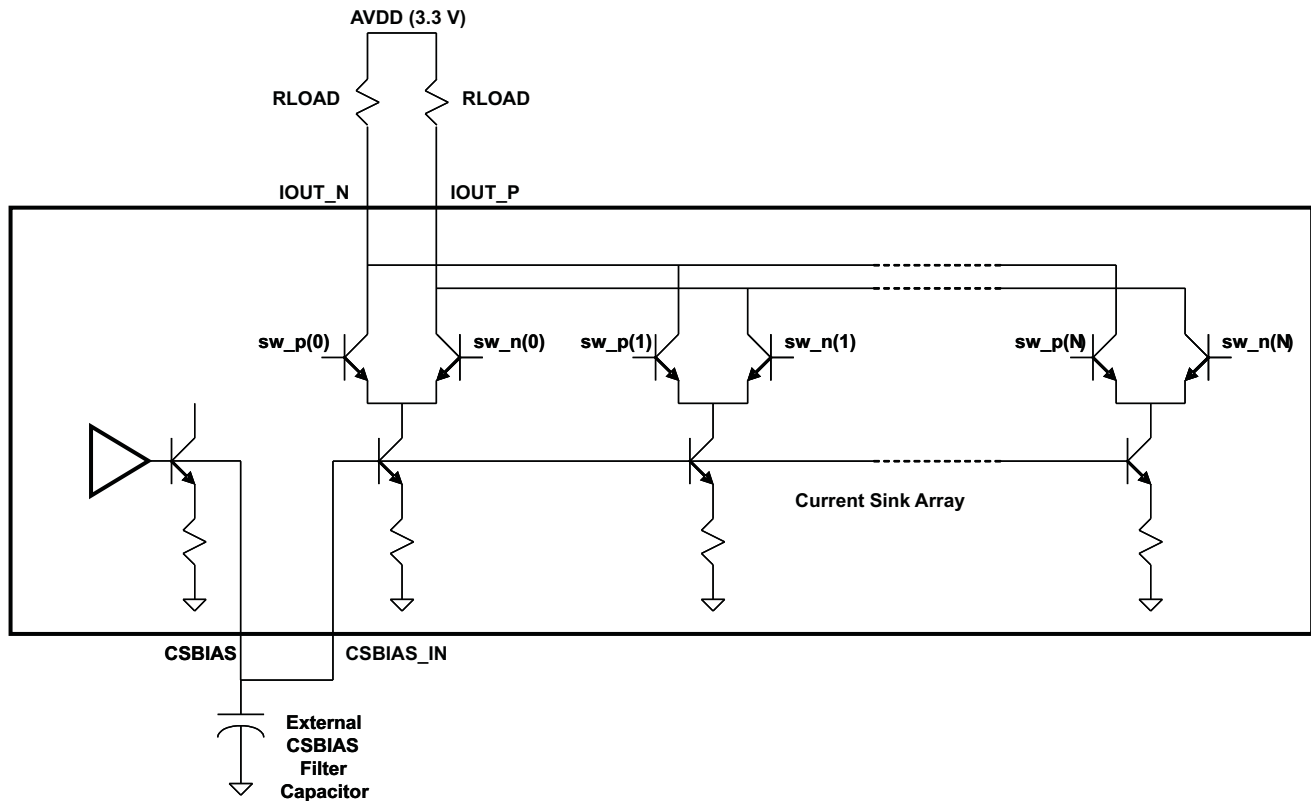

Figure 23. Current Sink Array
Figure 23 is a simplified schematic of the current sink array output with corresponding switches. Differential NPN switches direct the current of each individual NPN current sink to either the positive output node IOOUT\_P or its complementary negative output node IOOUT\_N. The input data presented at the DA\_P[13:0], DA\_N[13:0], DB\_P[13:0] and DB\_N[13:0] is decoded to control the sw\_p(N) and sw\_n(N) current switches.